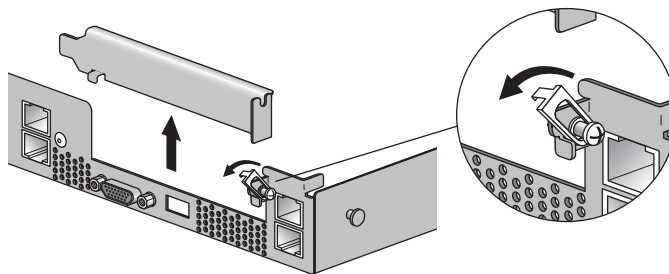

FIGURE 4-4 PCI Card Slot Cover
4. Withdraw the PCI card slot cover (see FIGURE 4-4).
8. Pivot the card latch up and then slide it down until it captures the PCI card bracket. Tighten the screw to secure the latch (refer to FIGURE 4-4).